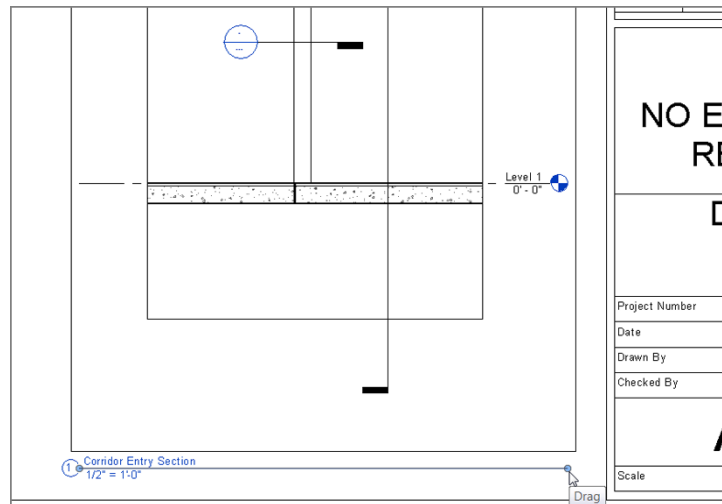

FIGURE 14.15: Stretching the view title line to the right using the blue grip
10. Zoom in on the view title for the Corridor Entry Section, as shown in Figure 14.15.
12. Extend the line by stretching the grip on the right to the right (see Figure 14.15).